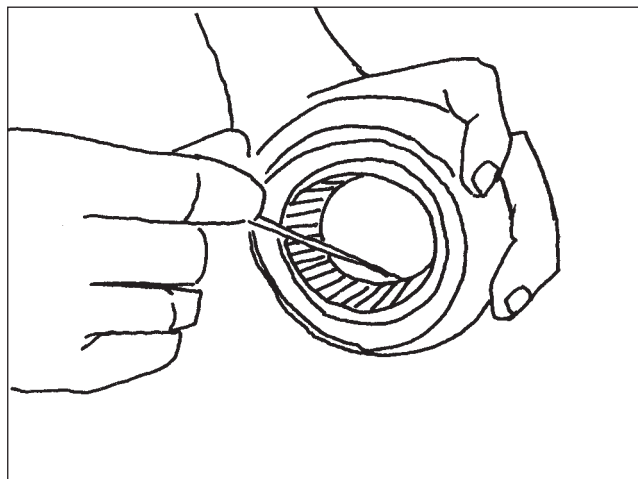

Figure 27
11. Install a new sector shaft seal in the cover. Make sure the blue side of the seal faces outward. Install a new O-ring on the cover (Figure 27).